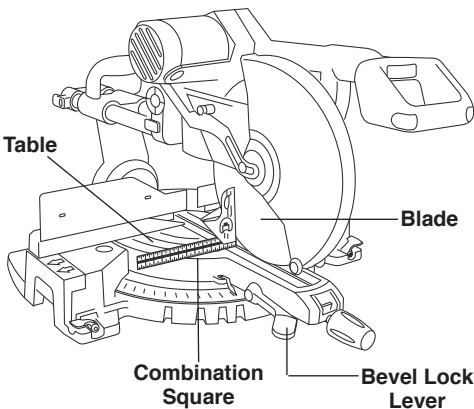

Figure 5. Blade Square to Table
Use a combination square to check blade squareness to the table. Place the square on the table and press it against the blade. If the blade does not contact the full length of the square, (figure 5), follow the calibrating procedure.
5. Place combination square on table and against blade. (See figure 5)